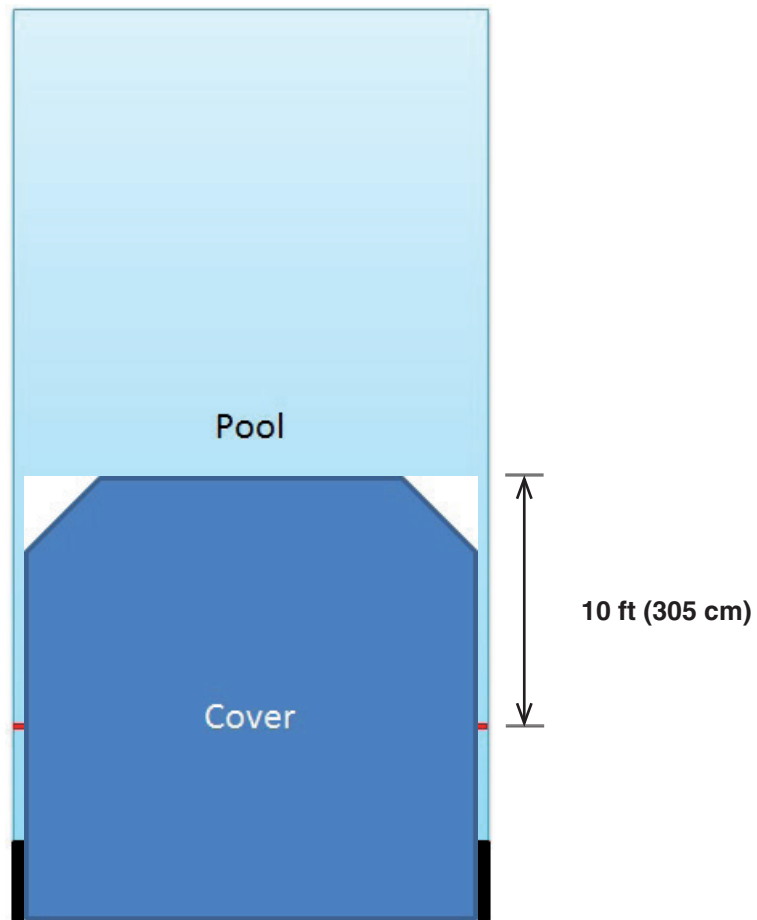

Figure 5. Pool Cover Set Position
- After zeroing the controller, press the controller button to move the cover in the close direction, approximately 10 ft. (305 cm). Then the pool controller will move the cover to the close position. The controller now has a set home position and a close direction. See Figure 5.